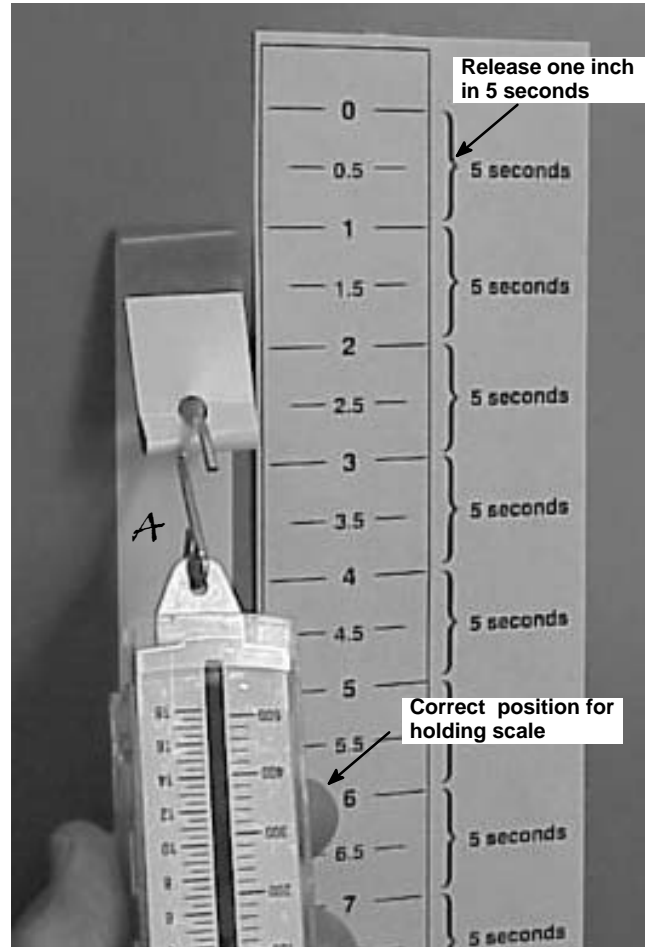

Figure 4. Technique for Releasing Film from Wall
8. Tape the marked reference strip of paper next to one of the film strips. Refer to Figure 4.
- c. Slide the S hook through the punched hole in the test strip. See Figure 4.
- d. Pull down on the test strip at an angle, keeping it as parallel to the wall as possible without any portion of the scale or your hand contacting the wall during the test. See Figure 4.
- e. Pull in a steady motion at a rate of about 1 inch in 5 seconds, using the reference paper increments as a guide. Refer to Figure 4. DO NOT STOP once you have started.